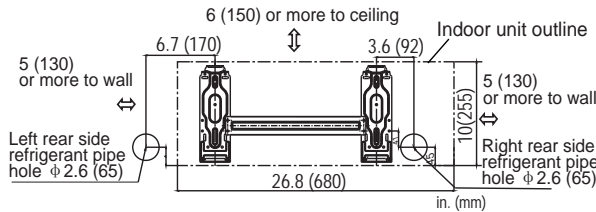

Fig. 5 – Mounting Plate– Model size 009
The mounting plate will look like one of the following (see Fig. 5 – 8) depending on model size.
1. Determine pipe hole position using the mounting plate as a template. Drill pipe hole diameter per values given in Fig. 5 through 8. The outside pipe hole is 1/2-in. (13 mm) min. lower than inside pipe hole, so it slants slightly downward (see Fig. 9).